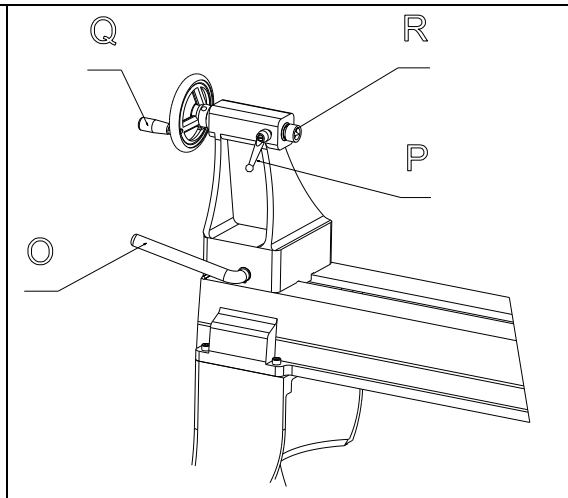

Fig. 8
11. Tailstock Lock Handle: (O, Fig. 8) Locks the tailstock in position. Unlock handle to position the tool rest in any location along lathe bed. Tighten handle when properly positioned.
12. Tailstock Quill Lock Handle: (P, Fig. 8) Locks the tailstock quill in position. Unlock handle to position the quill. Tighten handle when properly positioned.
13. Tailstock Quill Handwheel: (Q, Fig. 8) Turn the handwheel to position the quill. The tailstock quill lock handle must be loose to position quill.
14. Tailstock Live Center: (R, Fig. 8) Used for turning between centers. Quill taper is MT-2. Remove live center by retracting the quill until live center loosens. Remove, or add different tips to the live center by inserting the provided rod through